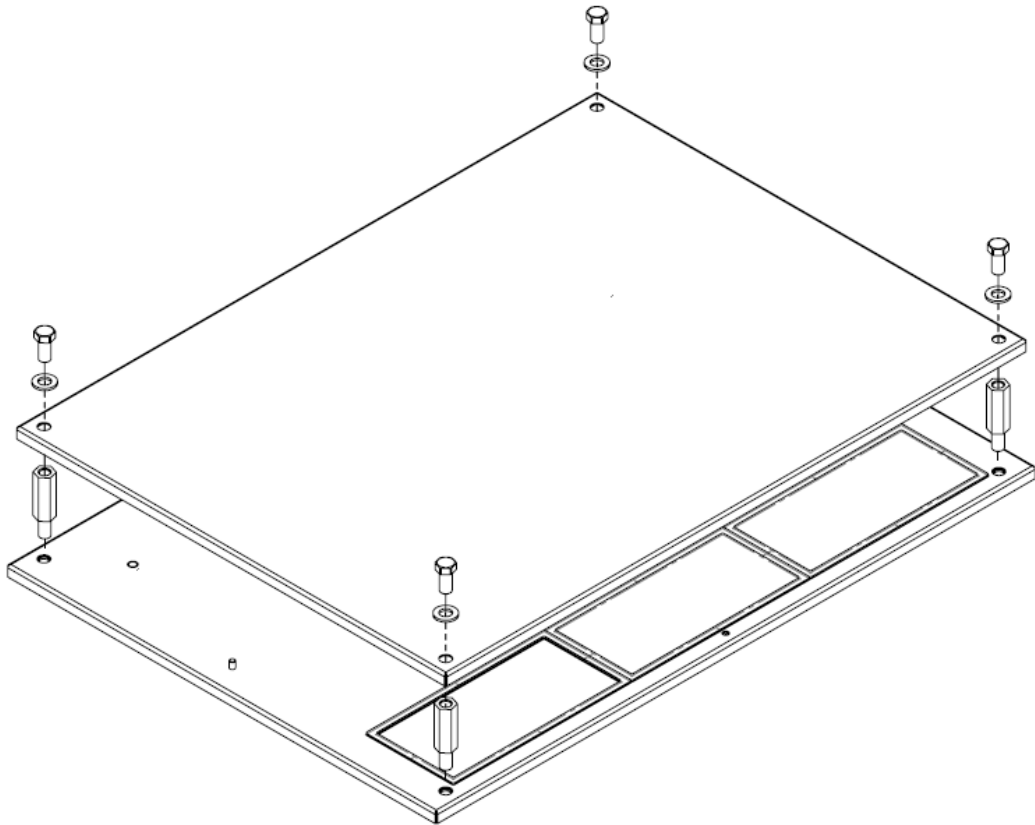

Figure 9: Active Filter IP22 (UL Type 1) roof installation
- Install the supplied standoff screws and distance bolts in the position shown in Figure 9.